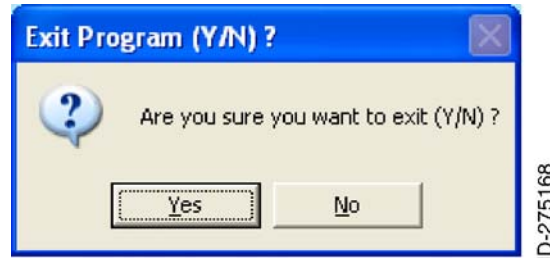

Figure 23. (Sheet 1 of 1) Exit Program (Y/N)? Window (EXIT)
- (12) Click the EXIT button on the ADAHRS Loader program and the window shown in Figure 23 will be displayed.